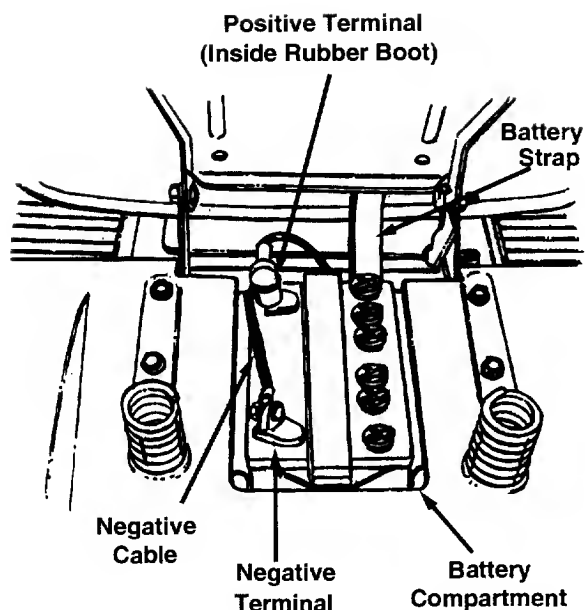

Figure 10
2. Make certain both the negative (black) cable and the positive (red) cable are routed up through the battery compartment as shown in Figure 10.